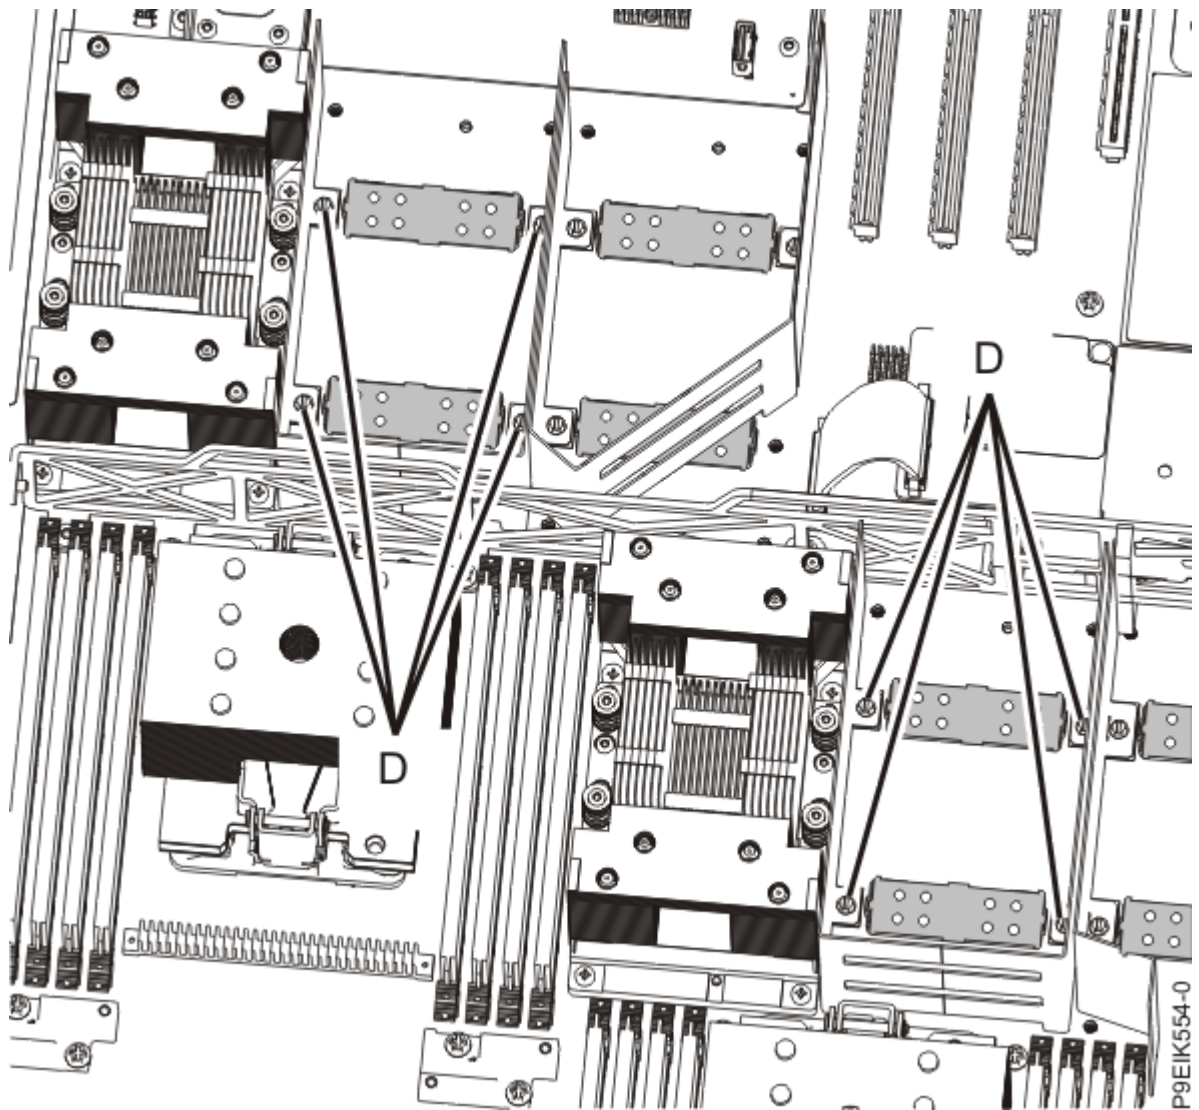

Figure 22. Removing a GPU filler
- a) Remove the four screws (**D**) that secure the a GPU filler to the system backplane as shown in Figure 22 on page 26.